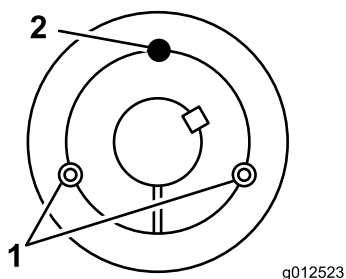

Figure 5
9. Thread one of the removed set screws into the threaded hole of the bushing (Figure 5). Tighten the set screw to loosen the bushing from the pulley hub.
13. Lightly oil the threads of the set screws and install the screws into the threads of the pulley (Figure 5). Alternately and evenly tighten the set screws to a torque from 180 to 250 in-lb (20 to 28 N-m).